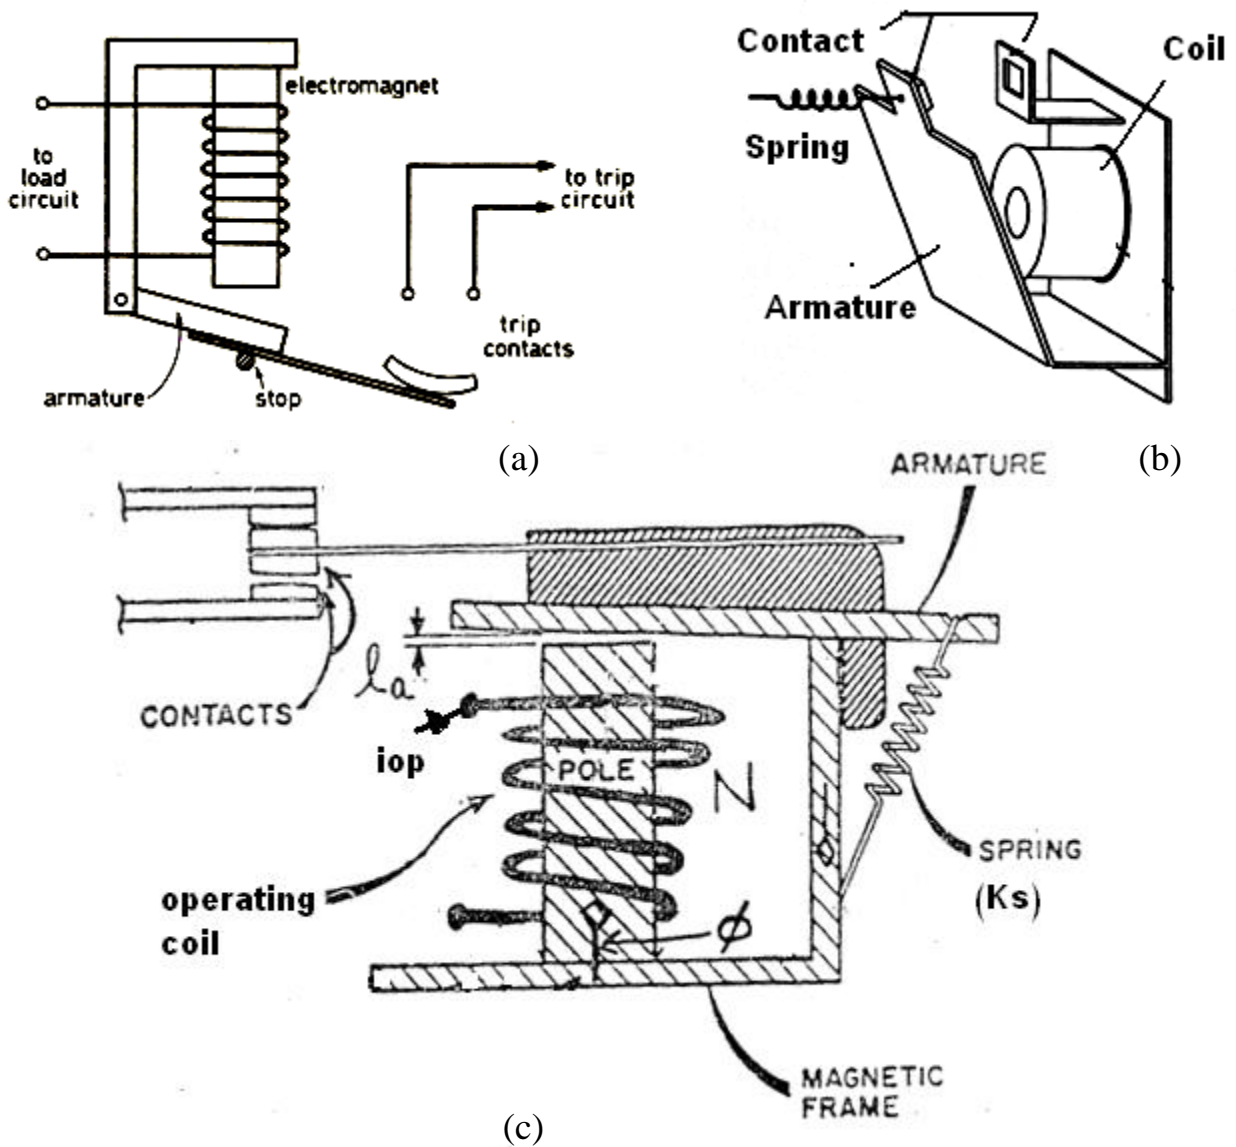

Fig. 1 Attracted armature-type relays
1.1.1 The attracted armature relays: which are shown in Fig.1, consists of a bar or plate of metal which pivots when it is attracted towards the coil.